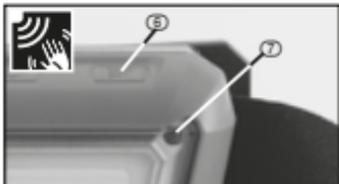

FIG.3
7.3 ACTION SENSOR OPERATION – FIG. 3
- 1 Press (6). The action sensor is active. Motion within 10cm of the head lamp will turn the light ON / OFF.
- 2 Press (6). The action sensor is deactivated.